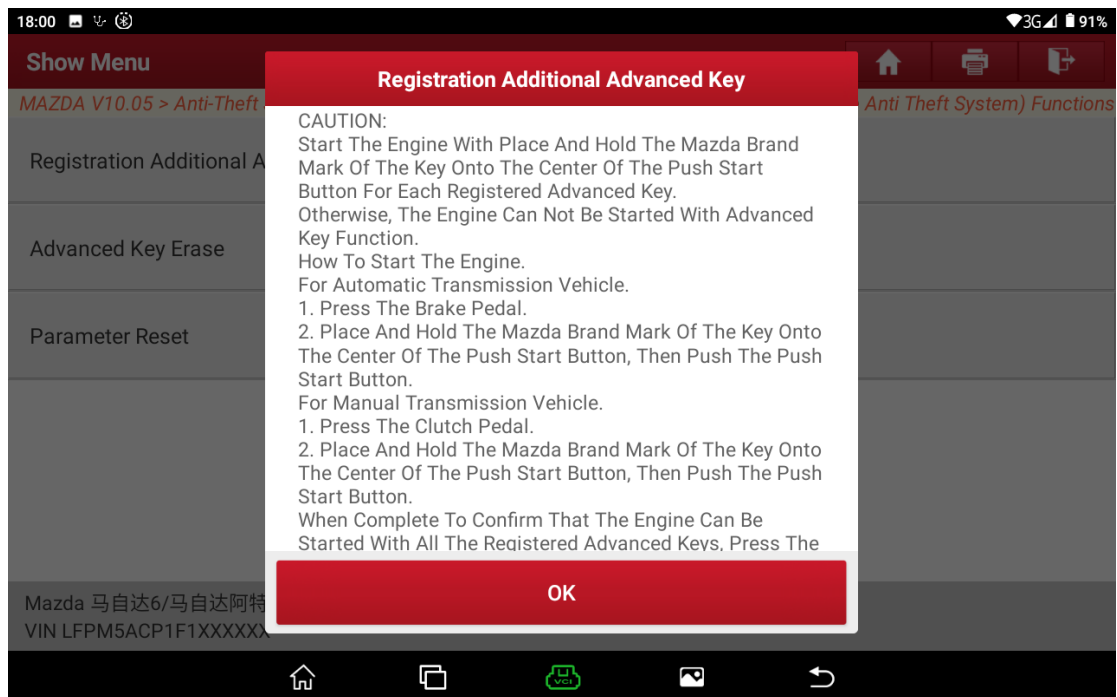

Figure A19
16. The precautions are displayed. See Figure A19.